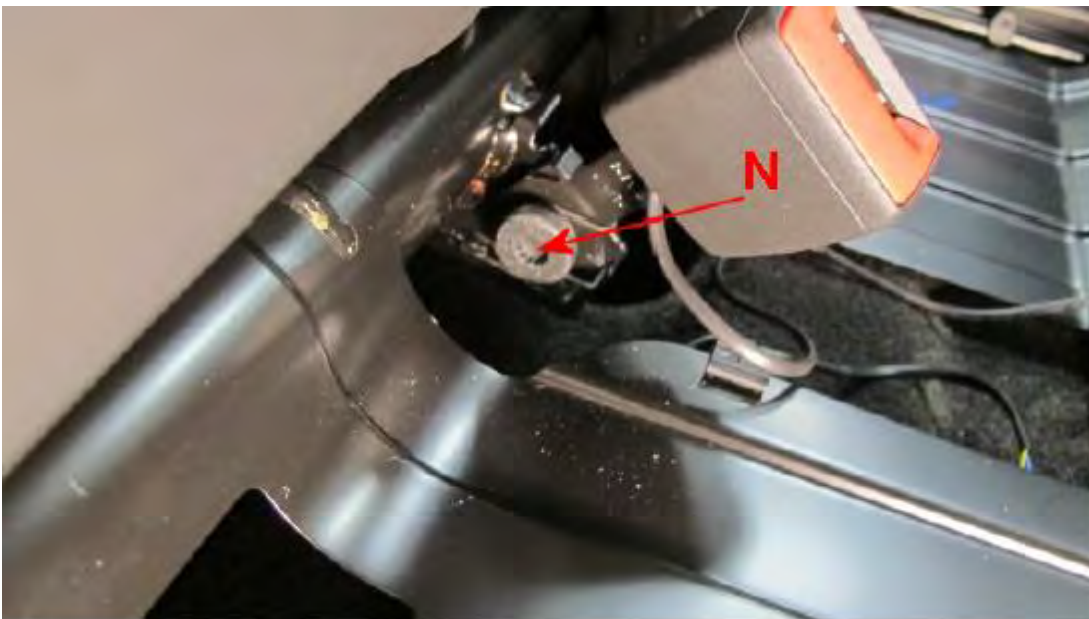

Figure 34
Rear 60% centre seat belt buckle fastener part torque 50Nm (see Figure 34)
2. Using an in date calibrated torque wrench apply 50 Nm to fasteners (N), (see Figure 34)